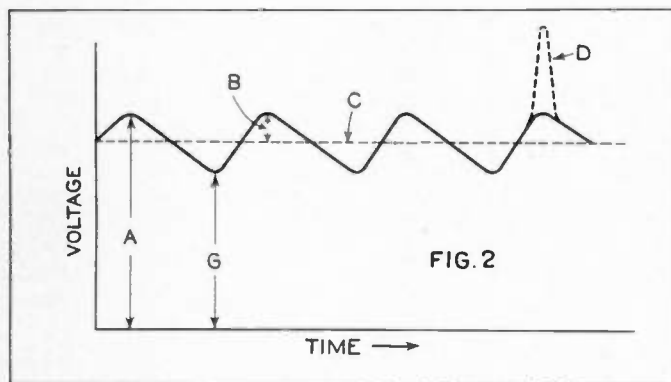
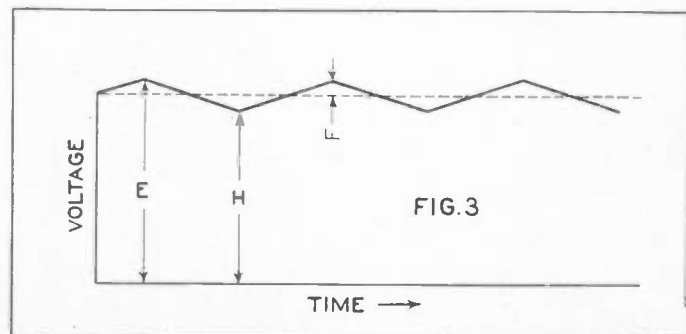

FIG. 2
FIG. 3
The definition of the various voltages mentioned in the specification will be clear from Fig. 2 and 3. Fig. 2 shows the voltage applied to condenser C1 under full load conditions. The maximum working voltage in normal operation is the height of the ordinate A. The maximum A.C. voltage under normal operation is the height B to the peak of the A.C. wave measured from the line C, which is the average D.C. value of the charge on the condenser. The dotted line D is the maximum peak voltage (item 7) which might arise due to the effect
In Fig. 3 are shown the conditions obtaining when the load is open. The height of the ordinate E represents the maximum working voltage and F the maximum A.C. voltage (Items 5 and 6).
tiometer 7, one end of this line may be made to coincide with the position of the undeflected spot. The D.C. potential read on the voltmeter 8 times the ratio read on potentiometer 7 will then be the height of the ordinate G in Fig. 2 (or H in Fig. 3), and the length of the line will be propor-
tional to twice the ordinate B of Fig. 2 (or F of Fig. 3). The length of this line may be calibrated by throwing the switch 5 into the down position and adjusting the potentiometer 9 until the spot is deflected to the point J. The reading of the voltmeter 10 times the ratio read on potentiometer 7 will then be the required calibration.